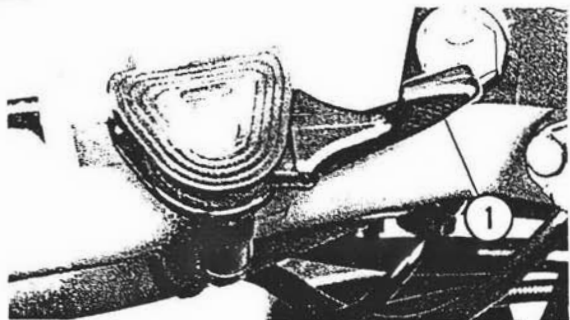

Figure 2-37. Enrichener Control Lever ON
6. See Figure 2-37. Move enrichener control lever (1) counterclockwise 1/4 turn until it points toward operator (ON position).